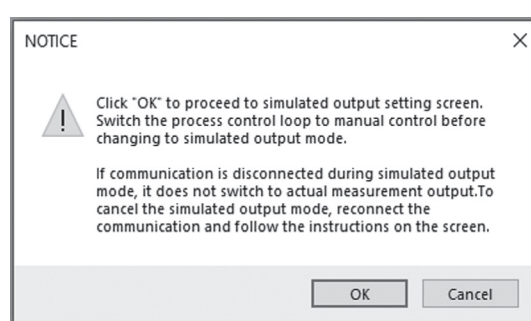

Fig.126
- ① When "Diagnosis/Service (T)" > "Loop test" > "Fix Pulse" in the menu are clicked, a message box (Fig. 126) appears. Then, after confirming that the process control loop has been switched to manual, click the "OK" button.